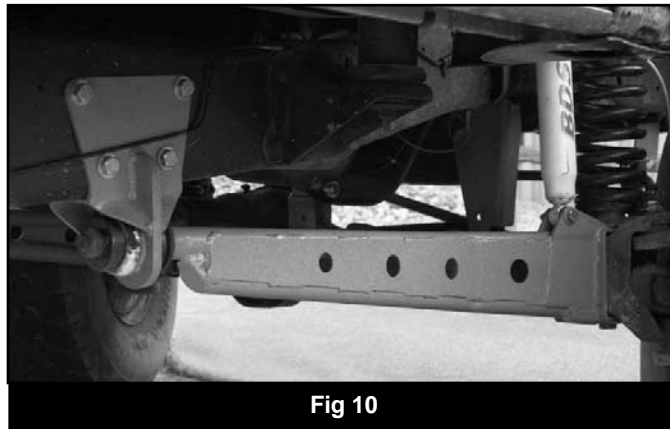

Fig 10
18. Install applicable BDS shocks for your vehicle and amount of lift. Install wheels and tires. [Fig. 10]